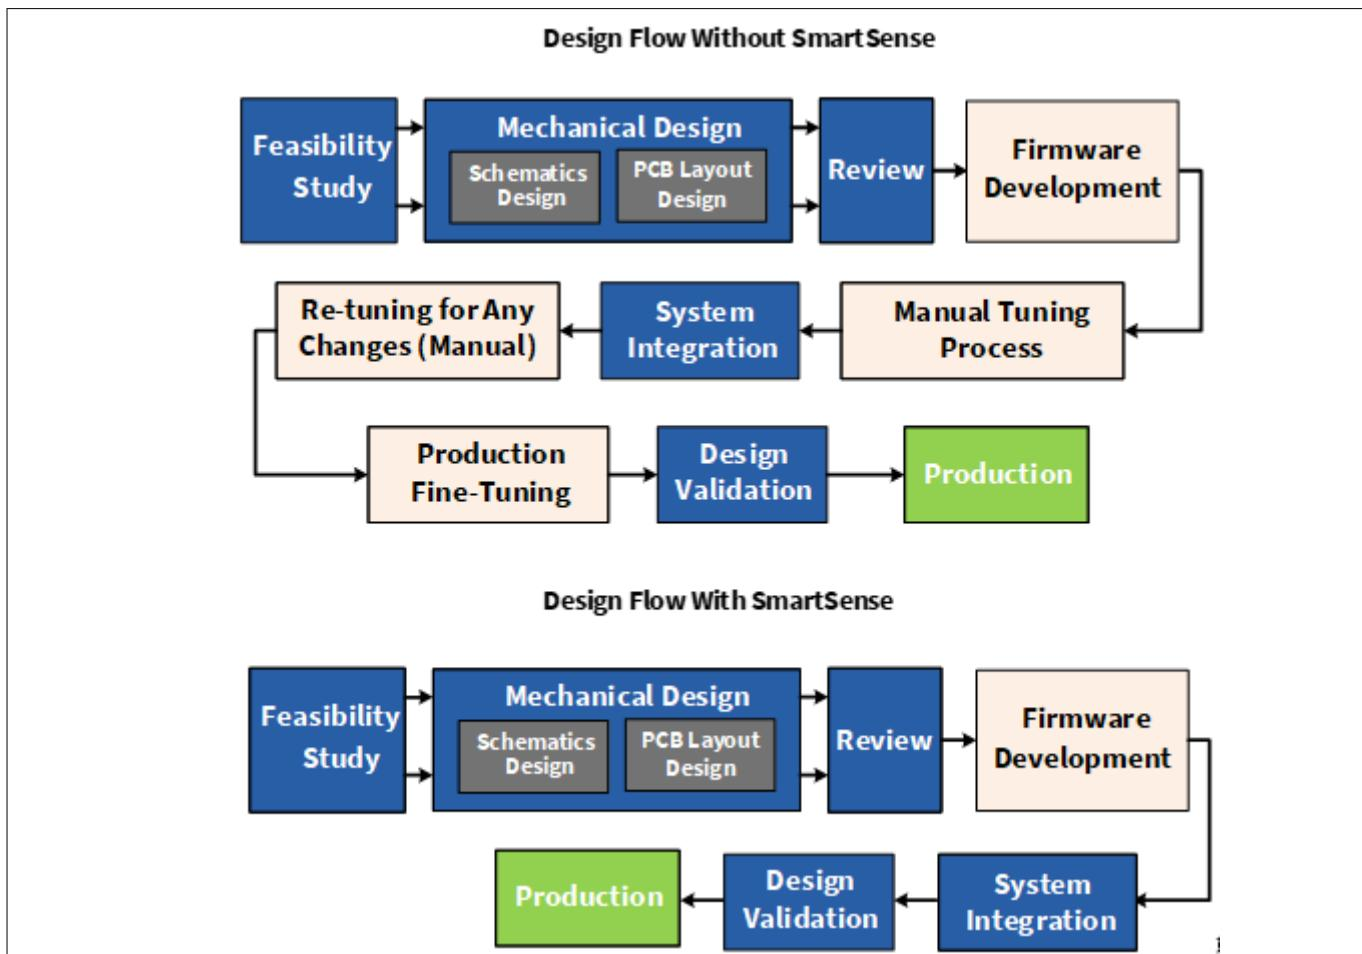

Figure 244 Design flow with and without SmartSense
- **Reduced design cycle time:** The design flow for capacitive touch applications involves tuning all of the sensors. This step can be time consuming if there are many sensors in your design. In addition, you must repeat the tuning when there is a change in the design, PCB layout, or mechanical design. Auto-tuning solves these problems by setting all of the parameters automatically. Figure 244 shows the design flow for a typical CAPSENSE™ application with and without SmartSense